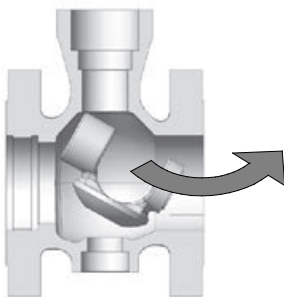

Figure 5a: Plug removal
- 13.6 Remove the plug from the body. See Figure 5a.